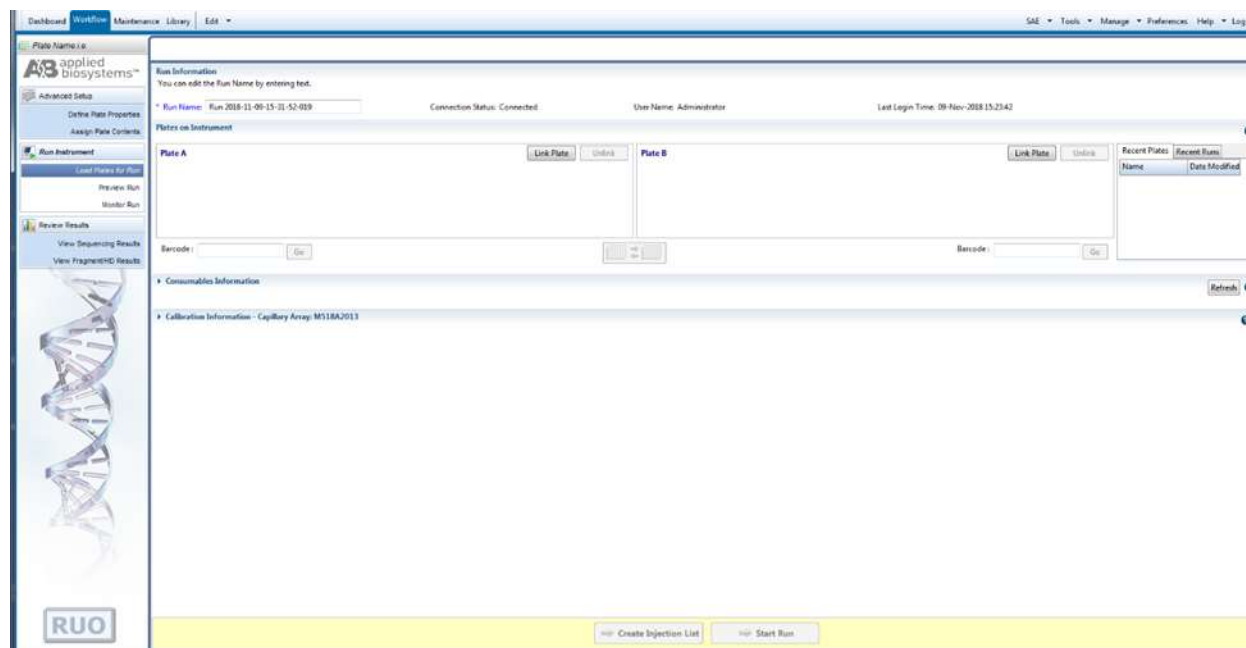

Figure 13. Screenshot for the “Run Information” window on Applied Biosystems® 3500 Data Collection software
- In the Run Information window, give a Run name (Figure 13). Select “Start Run” after loading the plate.